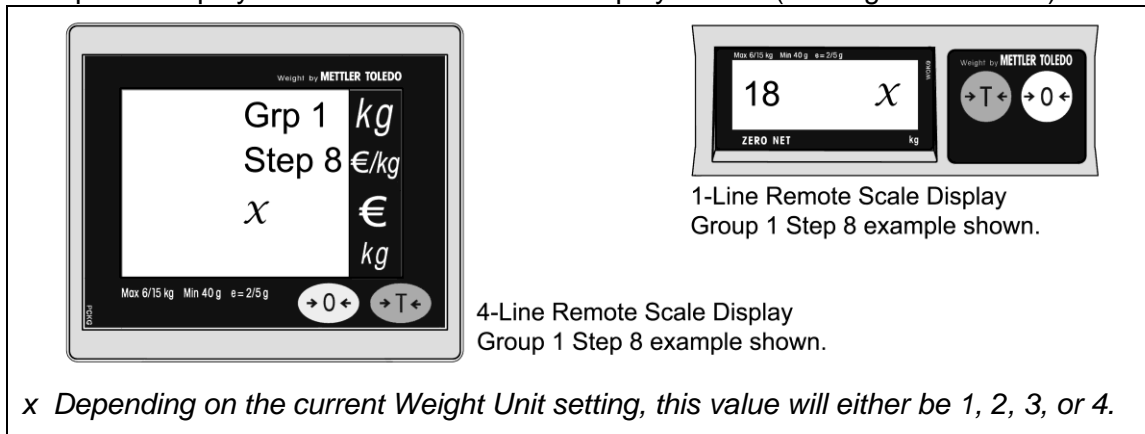

Figure 45. Remote Scale Display Group 1 Step 8 example shown
5. Go to Group 1 Step 8 (Weight Unit) of the Service Mode by pressing the Zero ($\rightarrow 0 \leftarrow$) key several times until 'Group 1 Step 8' is displayed on the Remote Scale Display screen (see Figure 45 below).